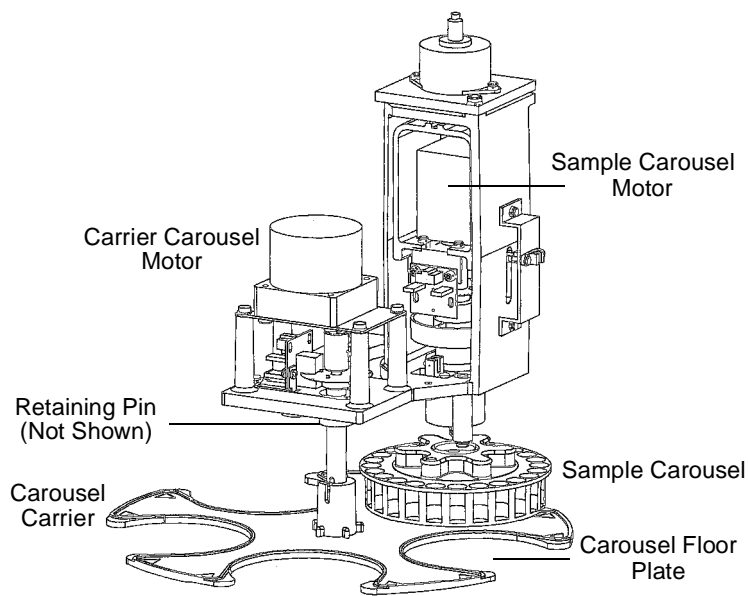

Figure 7-17 Sample Compartment Components
1. Push down about 1/4-inch on the spring-retaining pin in the center of the carousel carrier to loosen the carousel carrier (Figure 7-17).
2. Slide the carousel carrier toward the front of the unit, then remove the carousel carrier (Figure 7-17).
3. Remove the carousel floor plate and clean with a non-abrasive cleaner (Figure 7-17).